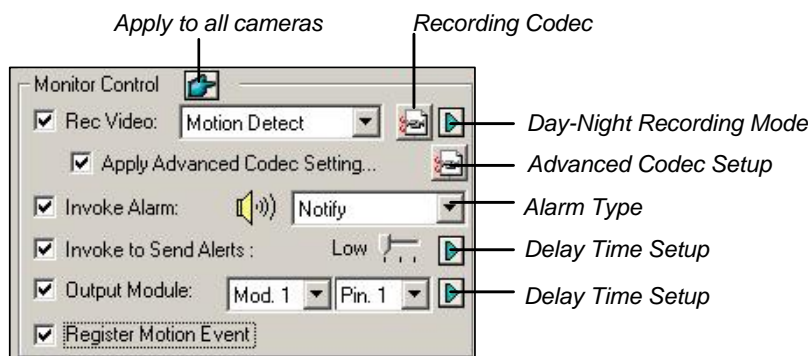

Figure 1-13 Monitor Control Setup
1. Click the **Day-Night Recording Mode** button in Figure 1-13, and this dialog box appears.
In Figure 1-13, check the **Apply Advanced Codec Setting** option, click the  button beside, and then click the **Advanced** tab. This window appears.